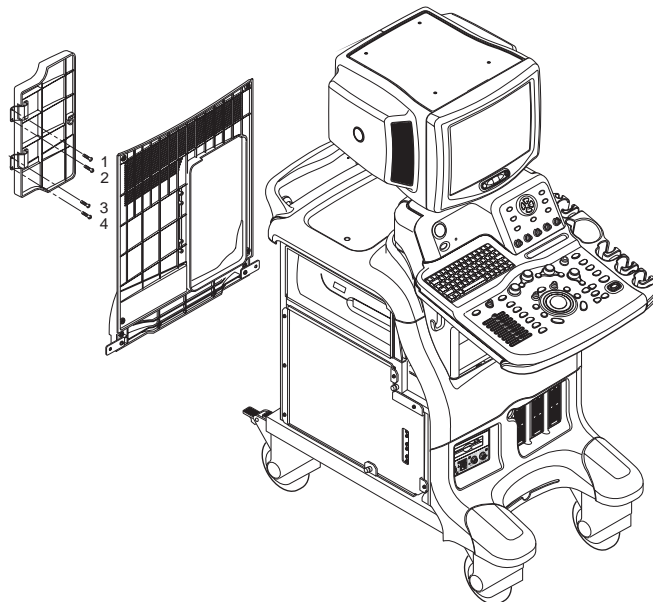

Figure 8-46 Removing the Rear Door Cover
- 4.) Unscrew four screws (1-4). Refer to Figure 8-46.